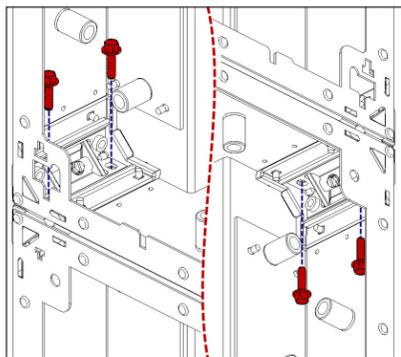

Figure 11: Install Bolt through Precision Block
- Install $\frac{1}{4}$ " bolts vertically through all of the precision blocks in one cabinet and into the adjacent cabinet's corresponding precision block's nutsert (four per side). Refer to **Figure 11**. Finger-tighten the bolts.